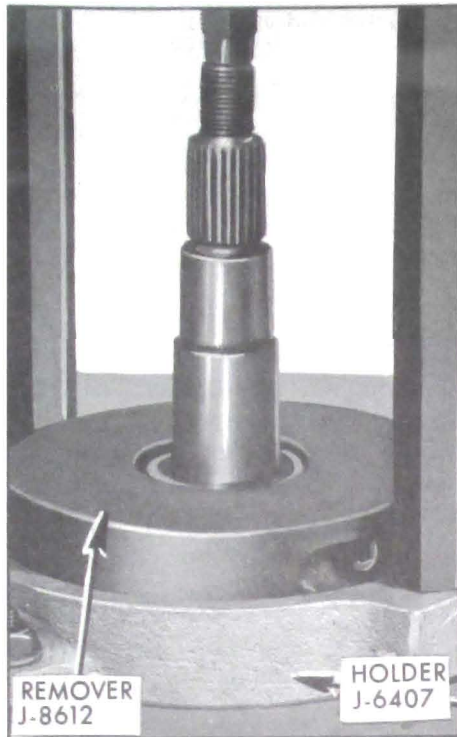

Figure 6-17—Removing Rear Pinion Bearing
1. If rear pinion bearing is to be replaced or pinion depth setting is to be changed, remove rear pinion bearing from pinion shaft using Remover J-8612 with Holder J-6407. See Figure 6-17.
1. Remove pinion assembly and press off rear pinion bearing using Remover J-8612 and Holder J-6407. See Figure 6-17.